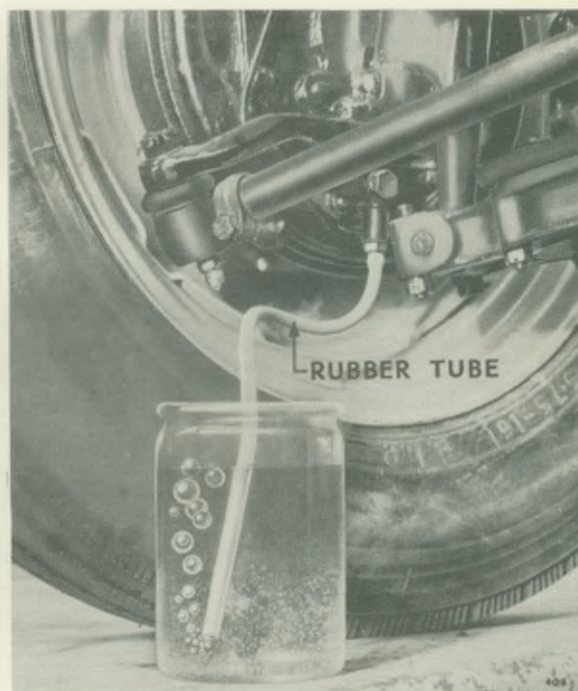

Fig. 5.
Bleeding the system. (Fig. 5)
The shoes are anchored at the bottom of the backing plate in the case of the front brake assemblies and in the case of those fitted at the rear, anchorage is at the front of the backing plate (see Figs. 5 and 6).
Description (Fig. 5)
1. Remove the rubber dust cover on the bleeder nipple, shown in Figs. 5 and 6, of the cylinder concerned. A length of rubber tube should be fitted over the nipple and